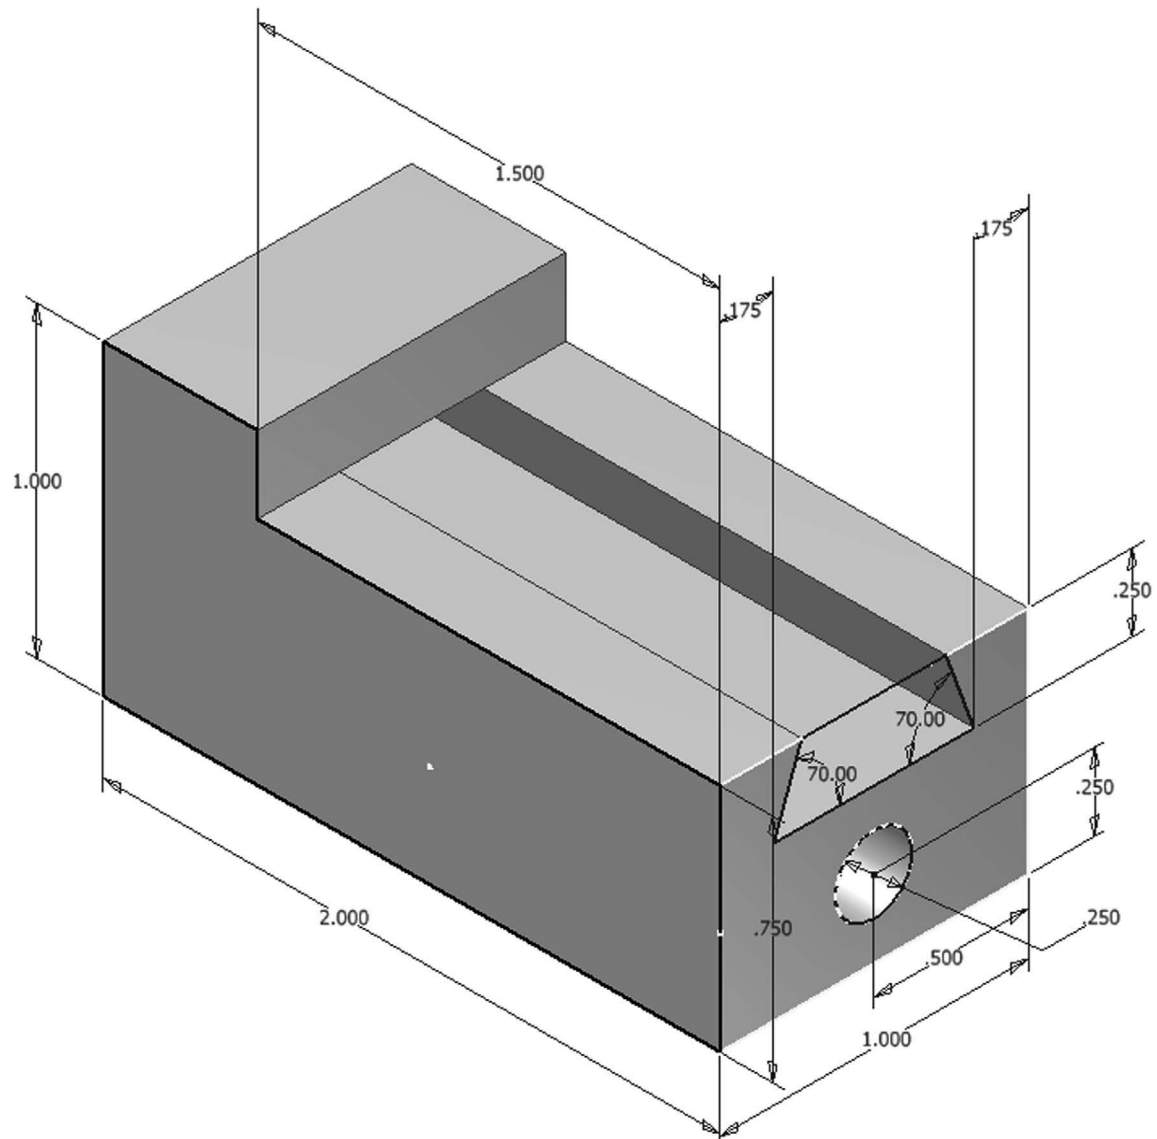

Figure 1
3. Complete the drawing shown in Figure 1.